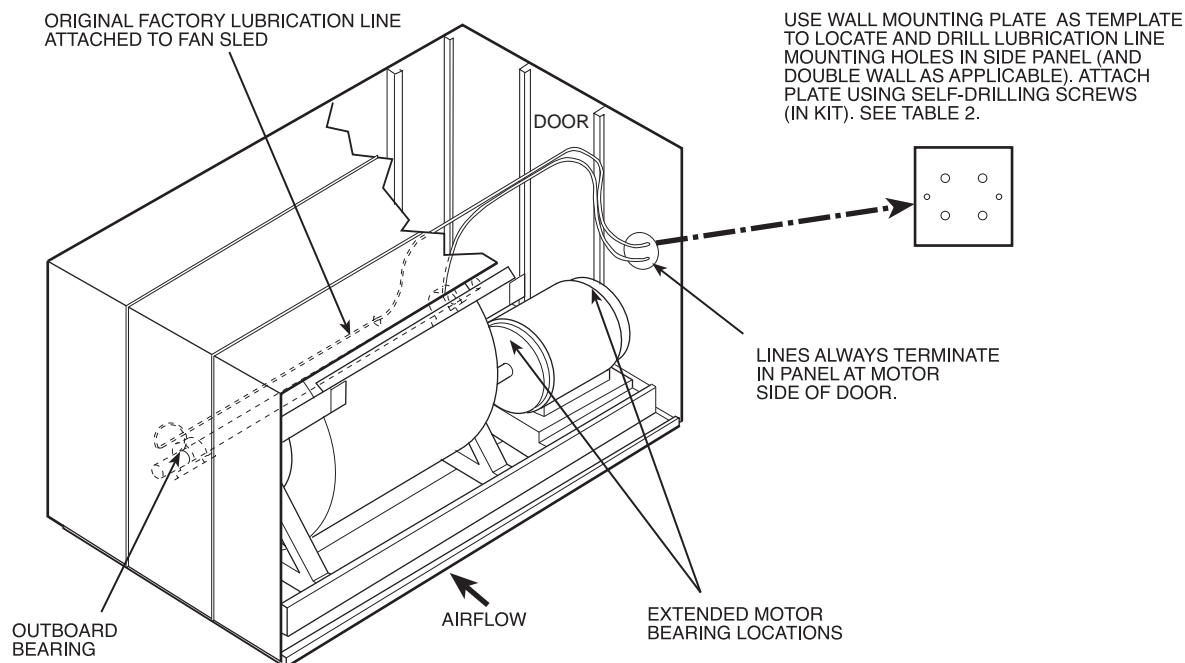

Fig. 1 — Installing Accessory Lubrication Line
3. Locate and remove short lubrication line from outboard bearing (Fig. 1). Replace with plastic tube (in accessory kit). This line should be routed to the drive end of the cabinet.
4. Use mounting plate to locate and drill lubrication line mounting holes in side panel (and double wall, when applicable). Refer to Fig. 1.